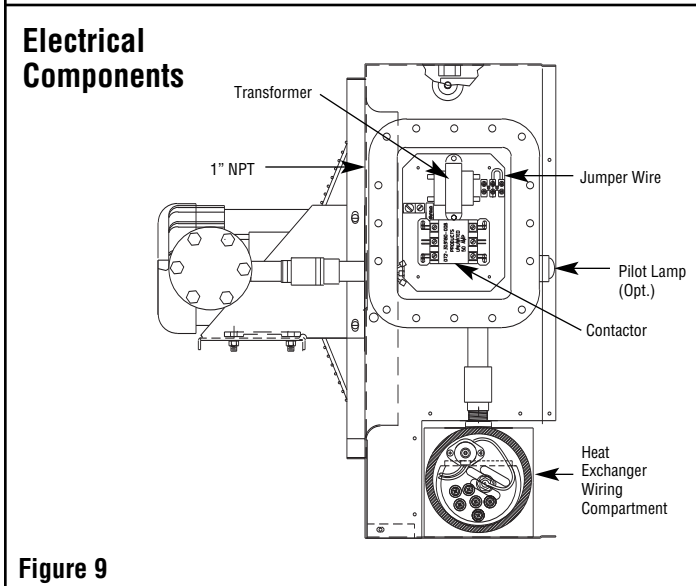
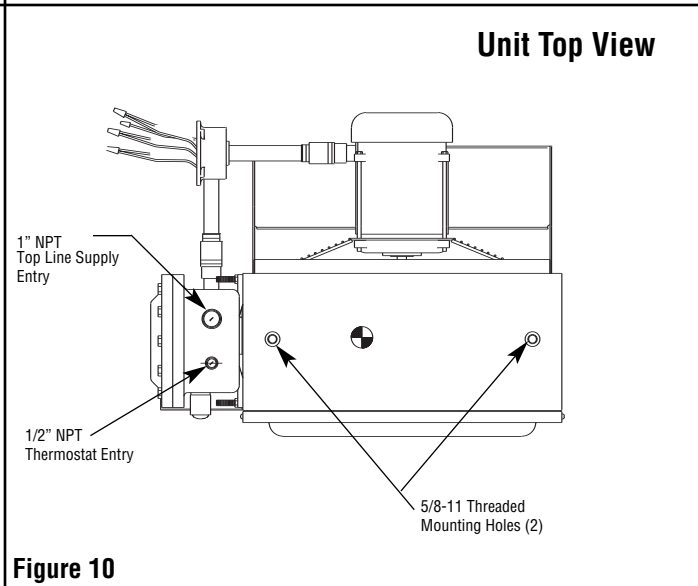

Figure 9
Figure 10
- Loosen and remove bolts securing the main terminal enclosure cover on side of unit. Connect heater to line supply wires at the box lugs located on the contactor according the voltage and frequency specified on the nameplate (see Figure 9). Refer to the appropriate wiring diagram which also appears on the inside cover of this enclosure (see Table B and diagrams on page 6).
- Either of two 1 NPT rigid conduit openings with integral stops may be used for connection to supply line. (See Figure 9 and 10 for locations) Use only NEC approval hazardous locations means of wiring such as mineral insulated cable and fittings or rigid conduit and seal fittings located as required by installation codes.
- To operate heaters from an externally mounted hazardous location thermostat, a terminal block is provided for connection (Figures 9 and 10). Remove the factory installed jumper across T2 and T3 on the terminal strip. Wire the thermostat contact leads to these terminals. The built in control transformer supplies the unit with either 24V or 120V for internal unit operation. This voltage will appear across the thermostat contacts when they are open. The minimum thermostat contact rating should be 1 amp @ 120 VAC. Refer to nameplate for control voltage of unit. The 1/2 NPT conduit wiring entry on top of the terminal enclosure should be used to wire the thermostat to the heater (Figure 10).
- Protection against overheating is provided by a manual reset limit control located within the heat exchanger wiring compartment. (Figure 9) Activation of the control will open the control circuit and energize the pilot lamp (if supplied). If normal airflow is restricted, or stopped, the unit will be cycled off by the manual reset cutout. The manual reset limit control is also designed to shut down the unit completely if the fluid level is low or other heater malfunction occurs.